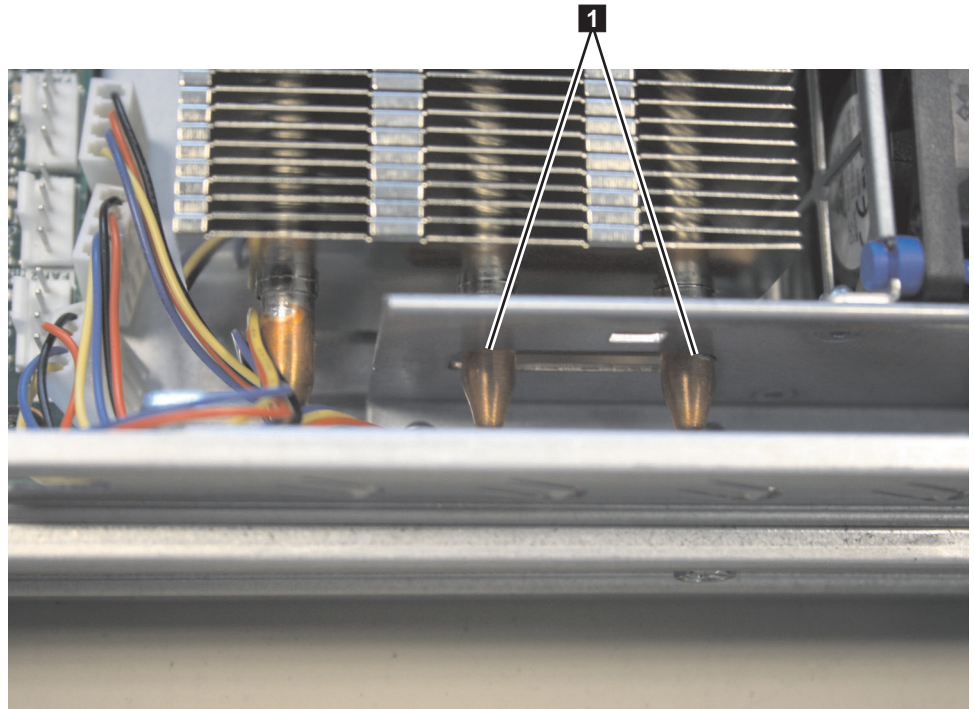

Figure 186. Alignment pins on the SAN Volume Controller 2145-8A4 heat-exchanger assembly
5. With the heat-exchanger assembly at an angle, carefully align the heat-exchanger assembly with the microprocessor and the heat exchanger retention module (socket) on the system board. Make sure that the alignment pins **1**, shown in Figure 186 on page 201, protrude through the alignment hole (the opening in the side of the heat-exchanger bracket) and that the flange of the heat sink rests under the lip of the heat-exchanger socket.